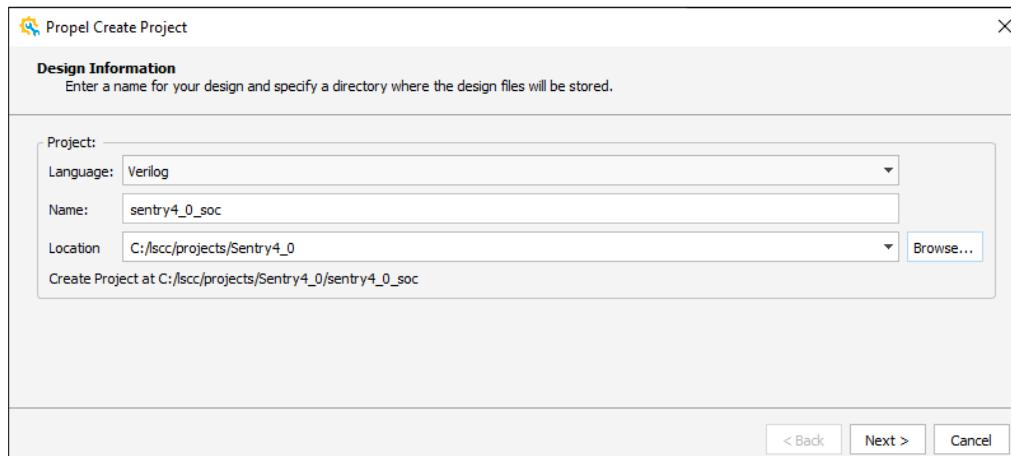

Figure 4.2. Design Information
4. Enter a project name which ends in `_soc`. Click **Browse** to navigate to the empty project directory created in Step 1. Click **Next** (Figure 4.2).